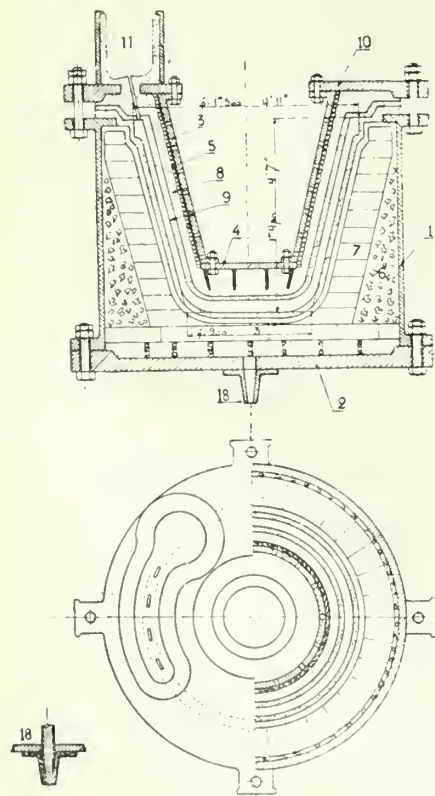

Fig. 1.—Plan and section of a loam mould for a slag ladle.
constructed as in Fig. 1, where (1) is a wrought or cast-iron shell; (2) a base bolted to the shell; (3) a core-iron bolted to a cover plate; (4) a bottom plate for core-iron, which must be unbolted before removing the core-iron from the core; (5) straw rope; (6) layer of sand; (7) red bricks; (8) loam mixture; (9) sand mixture, No. 2; (10) cast-iron cover; and (11) runner bush.